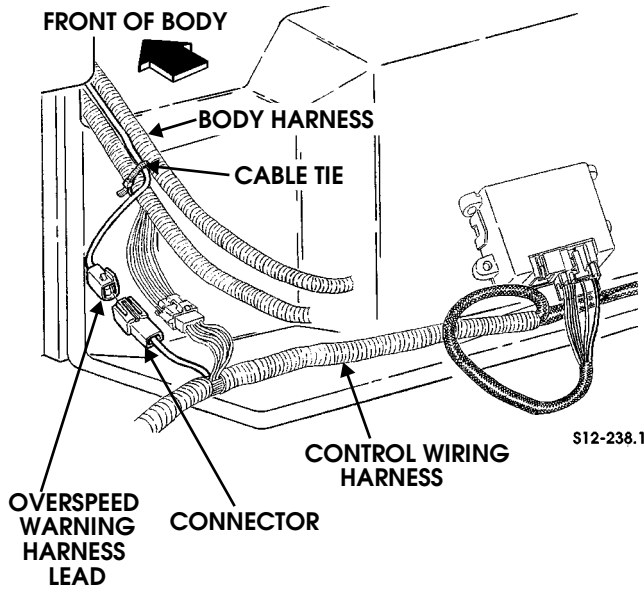

Figure 12-136: Overspeed Warning Harness Lead
1. Disconnect overspeed warning harness lead from control harness connector (Figure 12-136).
5. Secure overspeed warning harness lead to the body harness with two cable ties (Figure 12-136).